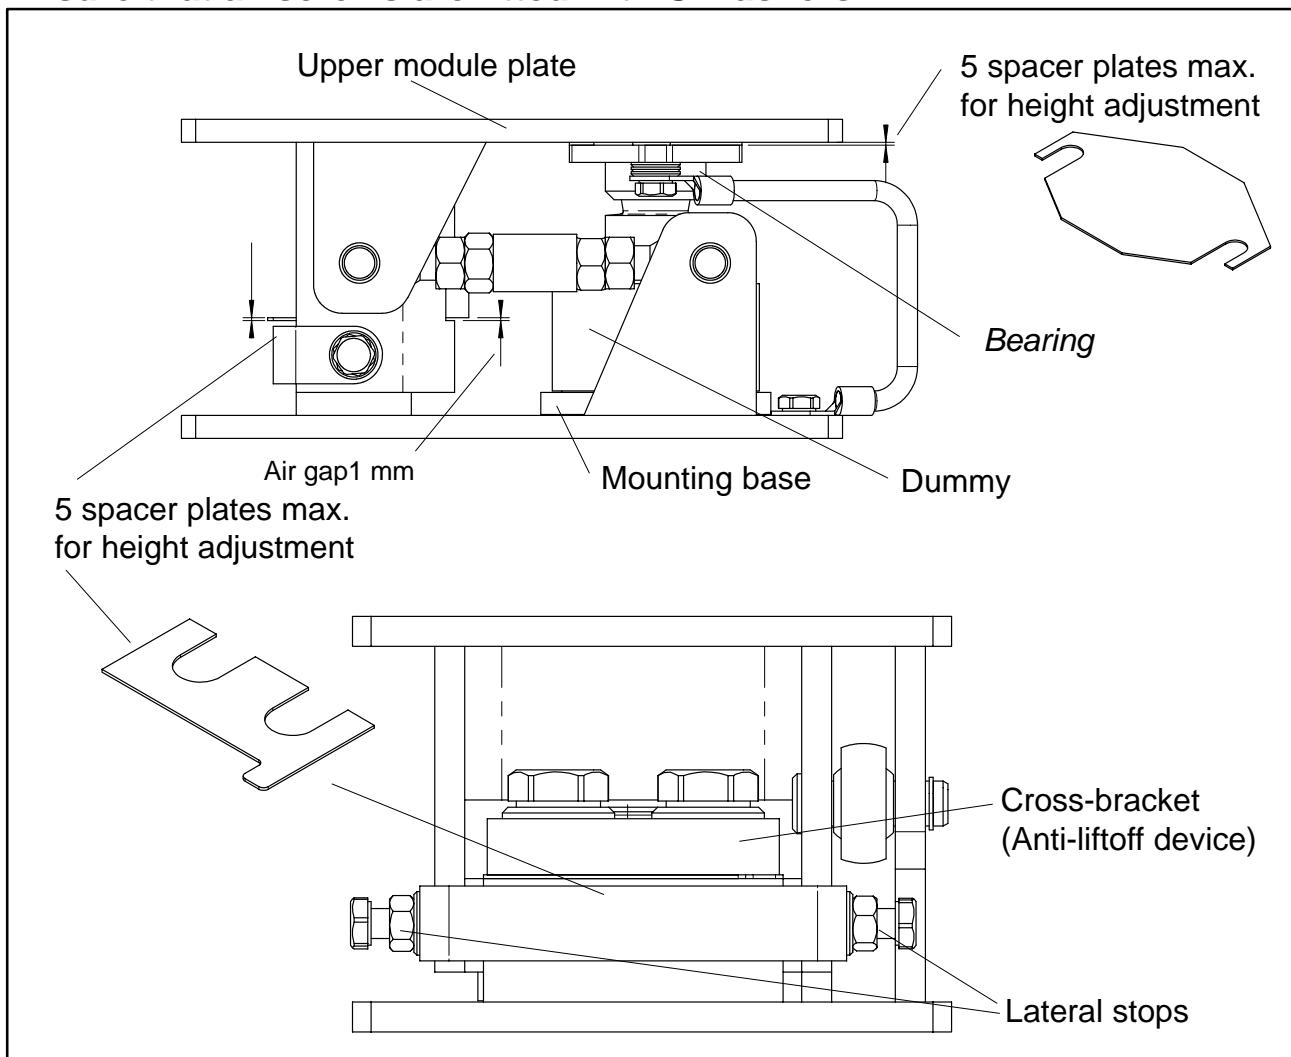

Fig. 2.1: Fitting of the spacer plates with 5 t version
Mounting of load cells (see Fig. 2.1 and 2.2):
- Mount and adjust the anti-liftoff device by inserting plates underneath such that an air gap of about 1 mm results (see Fig. 2.1) with the tank empty.